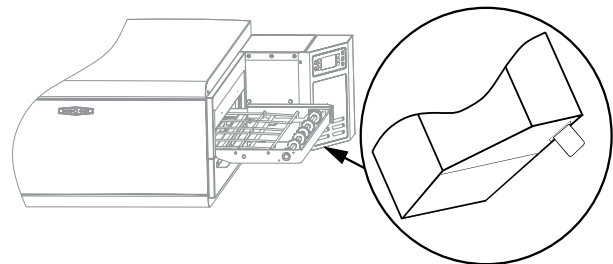

Figure 10: Smart Card Slot Location
1. Insert a smart card chip-first into the smart card slot (fig. 10) with the chip facing the back of the oven.